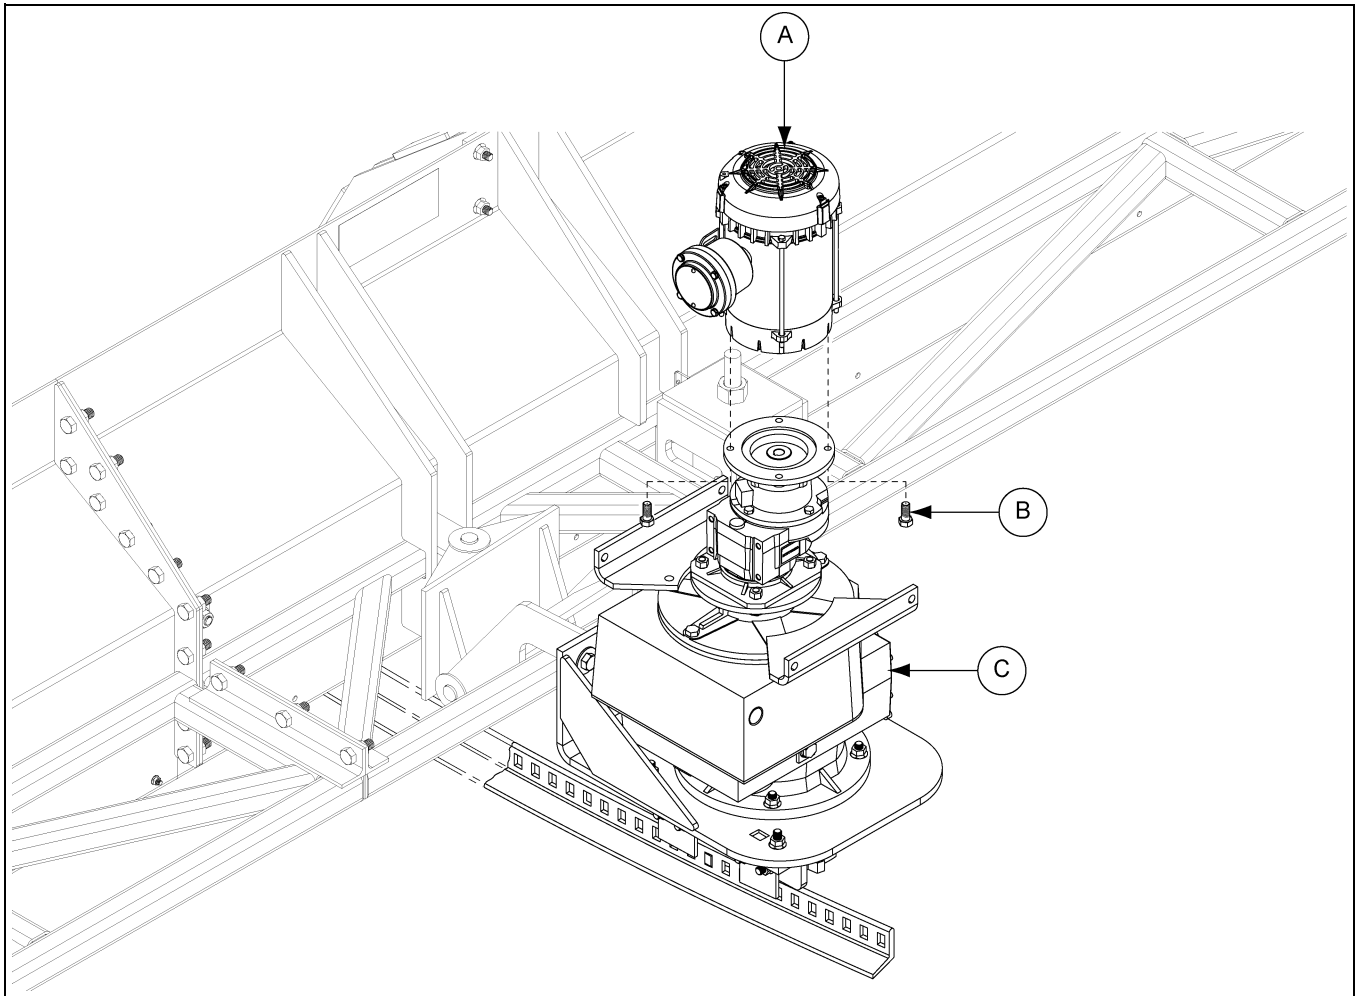

Figure 4BC
1. Using the appropriate lifting device, carefully lift and install track drive motor (A) to gearbox (C) using hex bolts (B). *(See Figure 4BC.)*